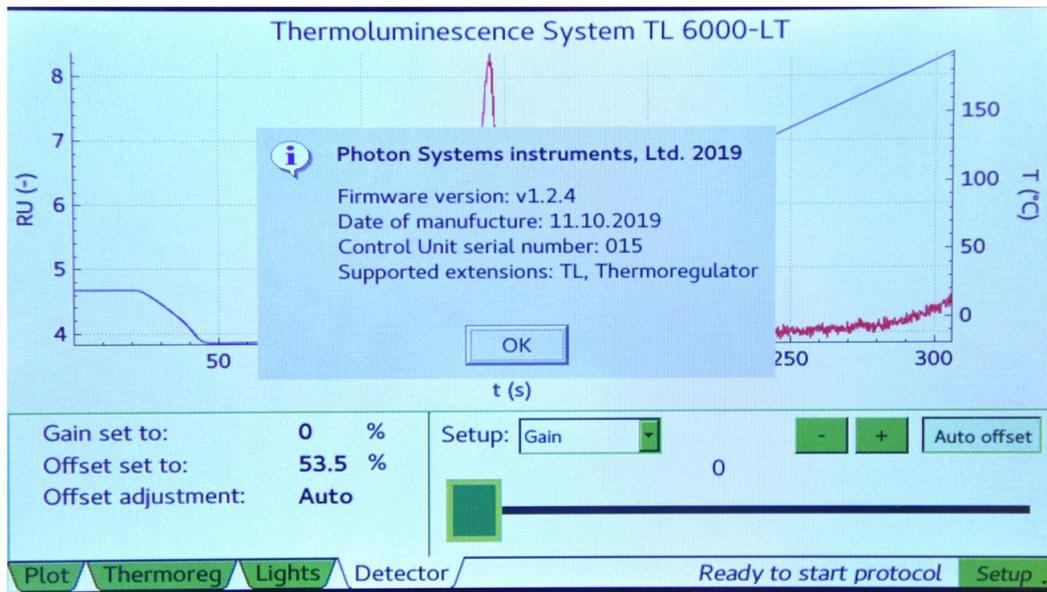

Fig. 23 Control unit display - About.
- About...                    information about the device (Fig. 23)